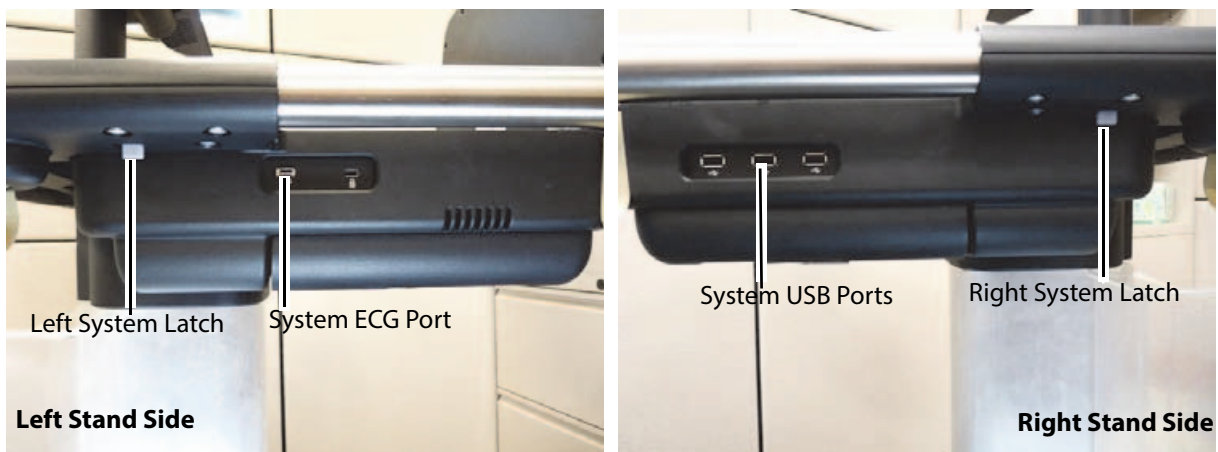

Figure 6.3 System Latch Release & Ports
- 1 Remove any USB devices connected into the right System/Stand side ports as well as the ECG cable connected to the left System/Stand side ports. Refer to Figure 6.3 on page 36.
- 3 Locate the two gray latch levers under the right and left side stand top platform near where the black metal mates to the shiny metal handle. Refer to Figure 6.3 on page 36.
- 2 Remove the X-Porte System (“Engine”) following the steps in the System (“Engine”) Removal section below and refer to Figure 6.3 on page 36.
- 2 Remove the X-Porte System ("Engine") from the Stand using steps 1-5 under the System section of this chapter. Refer to Figure 6.3 on page 36
- 2 Remove all cables, adapters, and any accessories plugged into either side of the System. Refer to Figure 6.3 on page 36.
- 3 Unlatch the System via the two small gray unlock levers. Refer to Figure 6.3 on page 36.